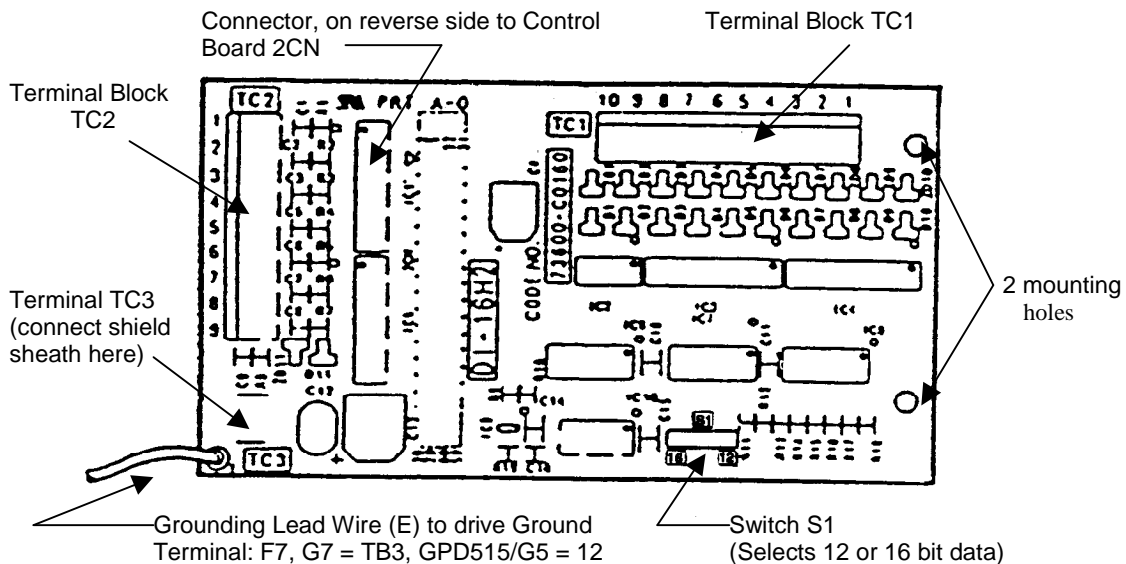

Figure 2. Digital Input Card DI-16H2
**Introduction:** The DI-16H2 digital input option card (Figure 2) is mounted on the drive's control board and allows the user to interface a 12-bit or 16-bit digital speed reference to the drive. This reference can be binary, binary coded decimal (BCD) in hertz (Hz), or BCD in percent (%). Sign (polarity) and Set (load) inputs are also included.
- a) If this option card is being installed in a drive with an encoder (PG) feedback option card, that card will need to be temporarily removed to allow access to connector 2CN on the drive's control board and TC1-TC3 on the DI-16H2 option card.
6. **Wiring:** Refer to Figures 2 and 3 and Tables 2 & 3. Make wire connections between the DI-16H2 card and drive as well as all peripheral devices. Observe the following:
- e) Connect the green grounding lead wire (E) from the DI-16H2 card to the grounding terminal TB3 (12 for G5) on the drive's control board.
7. **Adjustment:** Switch S1 (12 or 16 bit selection) must be set properly. See Tables 1 and 3. The drive will have to be programmed for the input requirements of the peripheral device. See Table 4 and Figure 2.